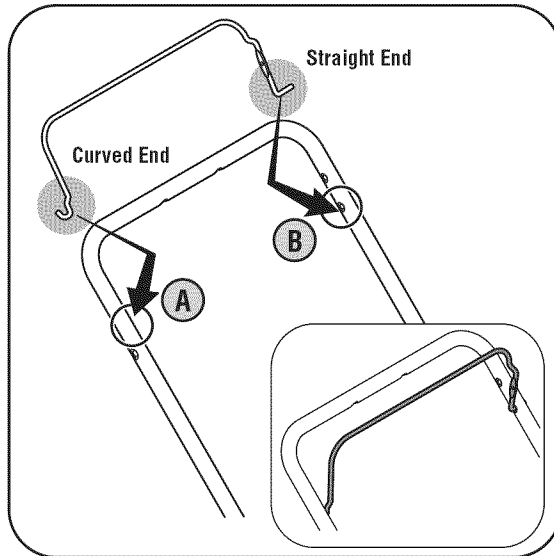

Figure 3-5: Install the blade control handle (if needed).
1. Insert the curved end of the blade control handle into the right hole, Step A Figure 3-5. Squeeze the handle in and insert the straight end of the blade control handle into the left hole of the upper handle, Step B Figure 3-5.